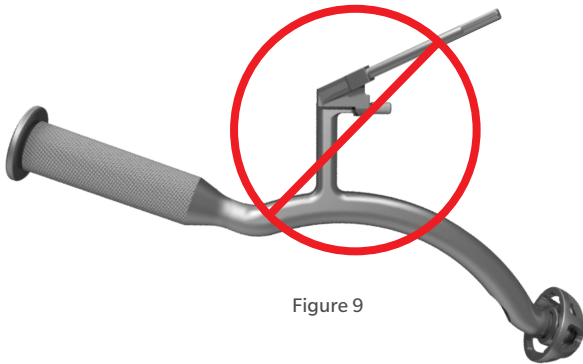

Figure 9
- ⓘ Note: The alignment support frame on the shell inserter will not be vertical to the floor and should not be used as a positioning guide (Figure 9). The arms on the guide are used to correctly position the provisional shell and/or implant.